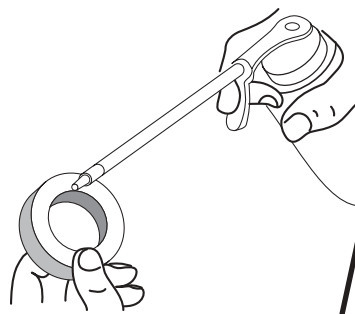

Fig. 63
4. Apply enough clean SAE 30 oil to lightly coat the filter (Fig. 63).